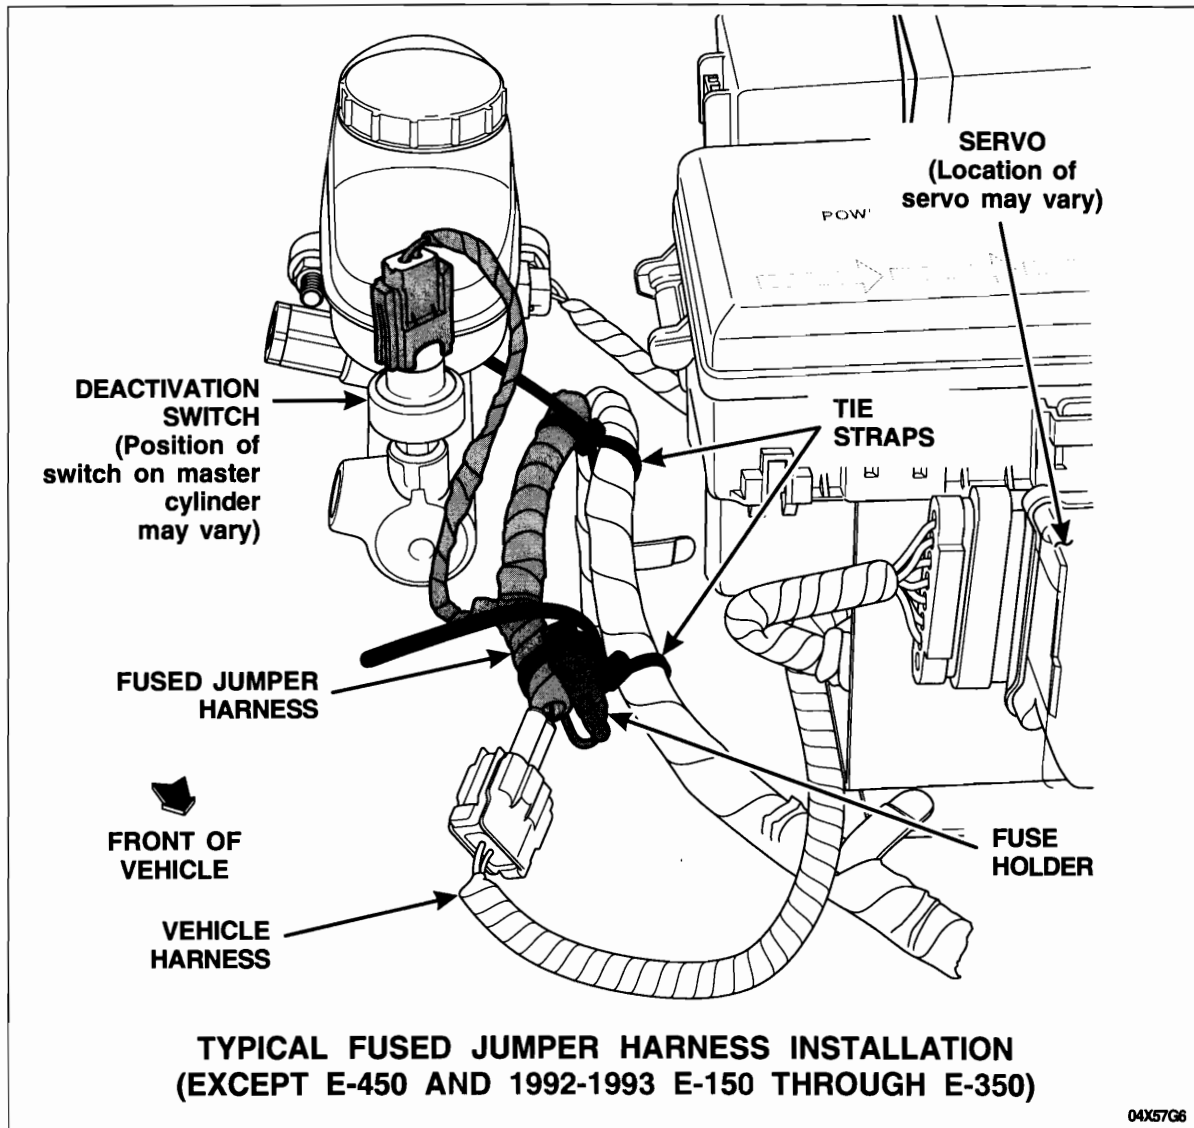

FIGURE 3
4. Secure the jumper to the existing harness with tie straps, making sure the fuse holder is positioned vertically with the cap facing upward. Wrap the tie straps underneath, then over the top of the existing harness and verify proper fuse holder orientation. See Figures 3, 4 and 5.